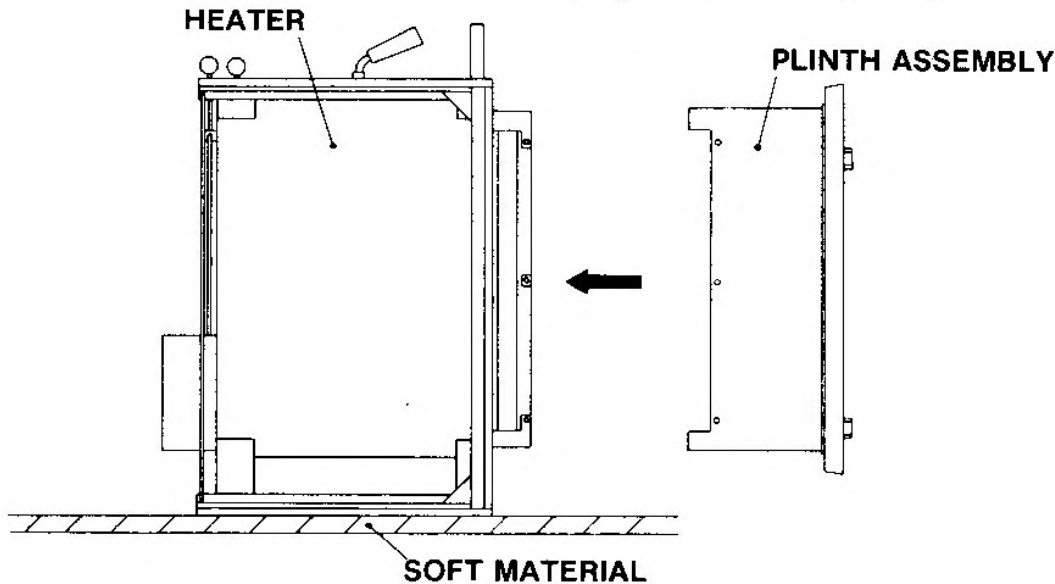

Fig. 4
6. Assemble the plinth to the heater, Fig. 4.